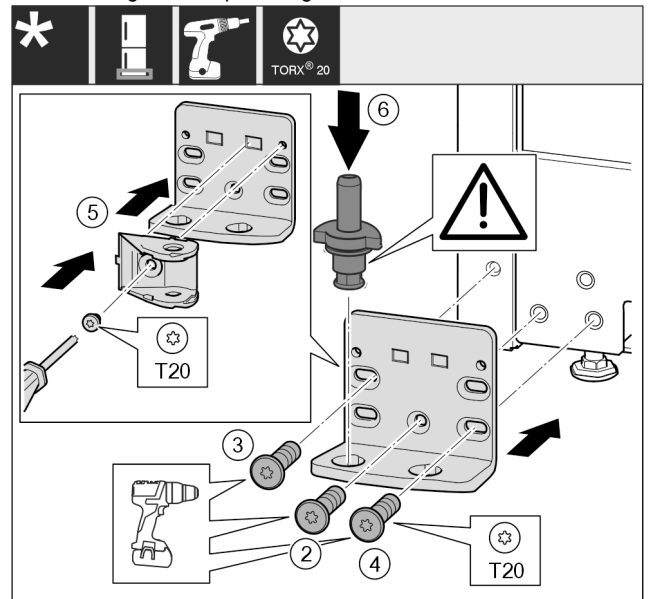

Fig. 18
- ▶ Place the swap bearing block on the other side and use a screwdriver to screw it on. Start with the screw Fig. 18 (2) at the bottom in the middle.
- ▶ Tighten screw Fig. 18 (3) and screw Fig. 18 (4).